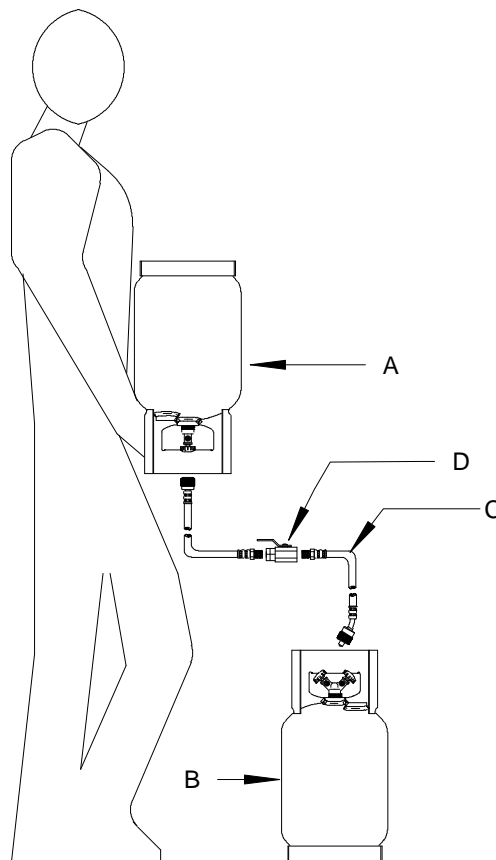

FIGURE 4 CHARGING TANK
1. Be sure Recovery Tank valves (B) are closed. Refer to FIGURE 4
3. Disconnect and **Re-Oil** both the seals on Yellow hose (C). Connect the long side of the Yellow Hose to the Virgin Tank.
4. Connect the short side of the Yellow Hose to the Red Valve on the Recovery Tank (B).
6. Invert the Virgin Tank (A) and open valve. Open Hand Valve (D) on the Yellow Hose to allow the refrigerant to flow.